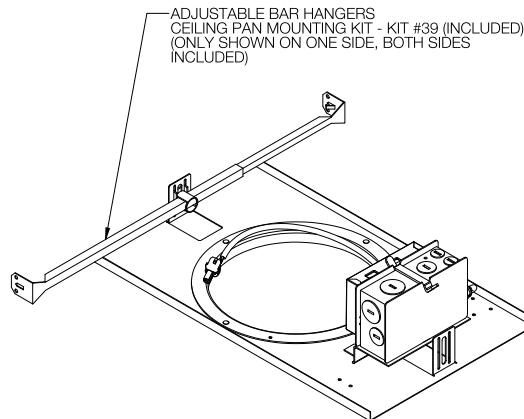

Figure 2:
1. Remove faceplate by loosening (1) 1.5mm hex head screw located on side of faceplate. Rotate faceplate counter-clockwise to remove. See Figure 2.
2. Ensure mounting claws are set to top most position and are turned in towards fixture. Mounting claws are raised and lowered via (2) 3mm hex head screws located under faceplate.
5. Replace faceplate. Align grooves in faceplate with notches in fixture housing, rotate faceplate clockwise and then tighten (1) 1.5mm hex head screw to secure faceplate into place. See Figure 2.